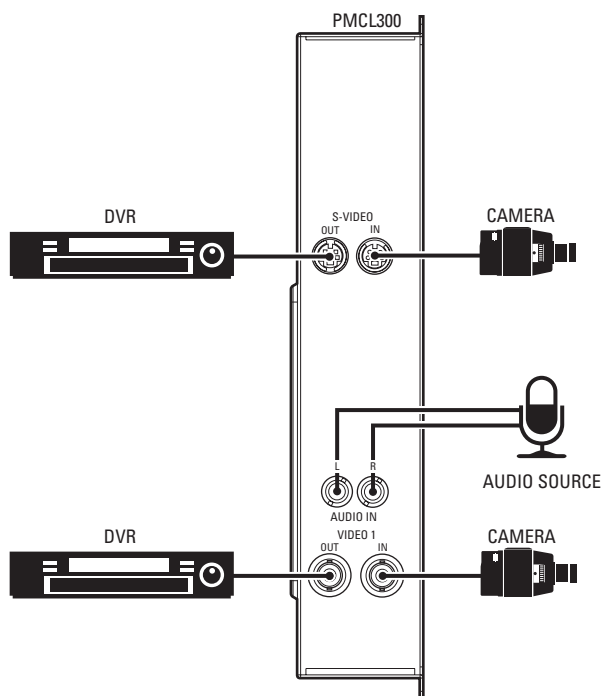
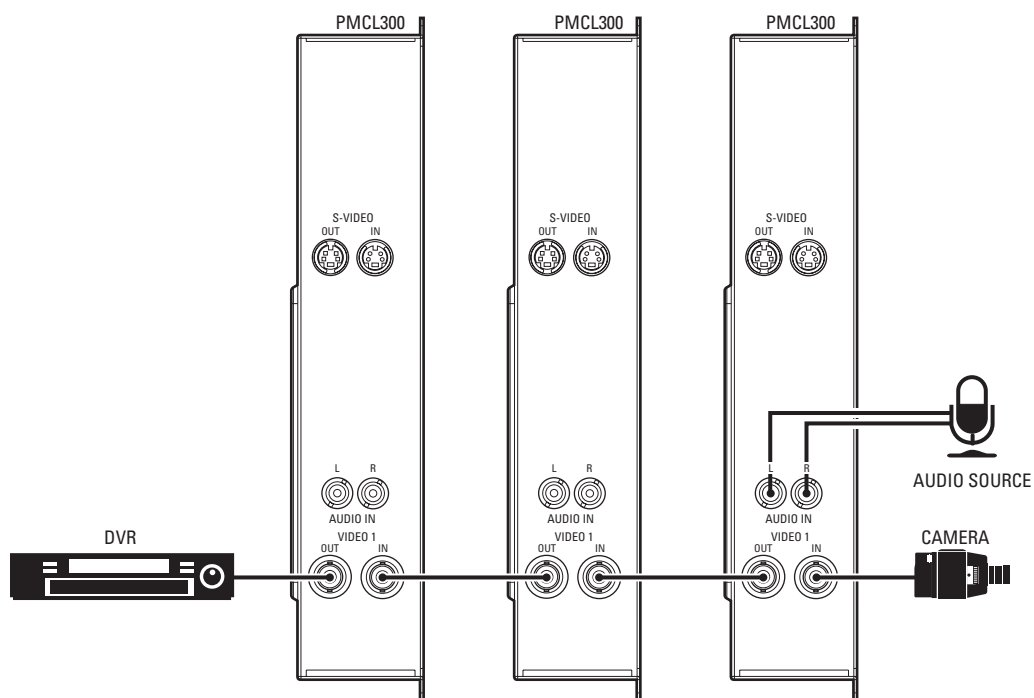

Figure 3. Looping Operation: One Monitor with External Video Equipment
Figure 4. Looping Operation: Maximum of Three Monitors with External Video Equipment
- b. *Looping Operation Only* (Refer to Figure 3 and Figure 4). Connect a video cable to the BNC video connector labeled VIDEO 1 OUT for composite or connect the video cable to the connector labeled S-VIDEO OUT for S-Video.